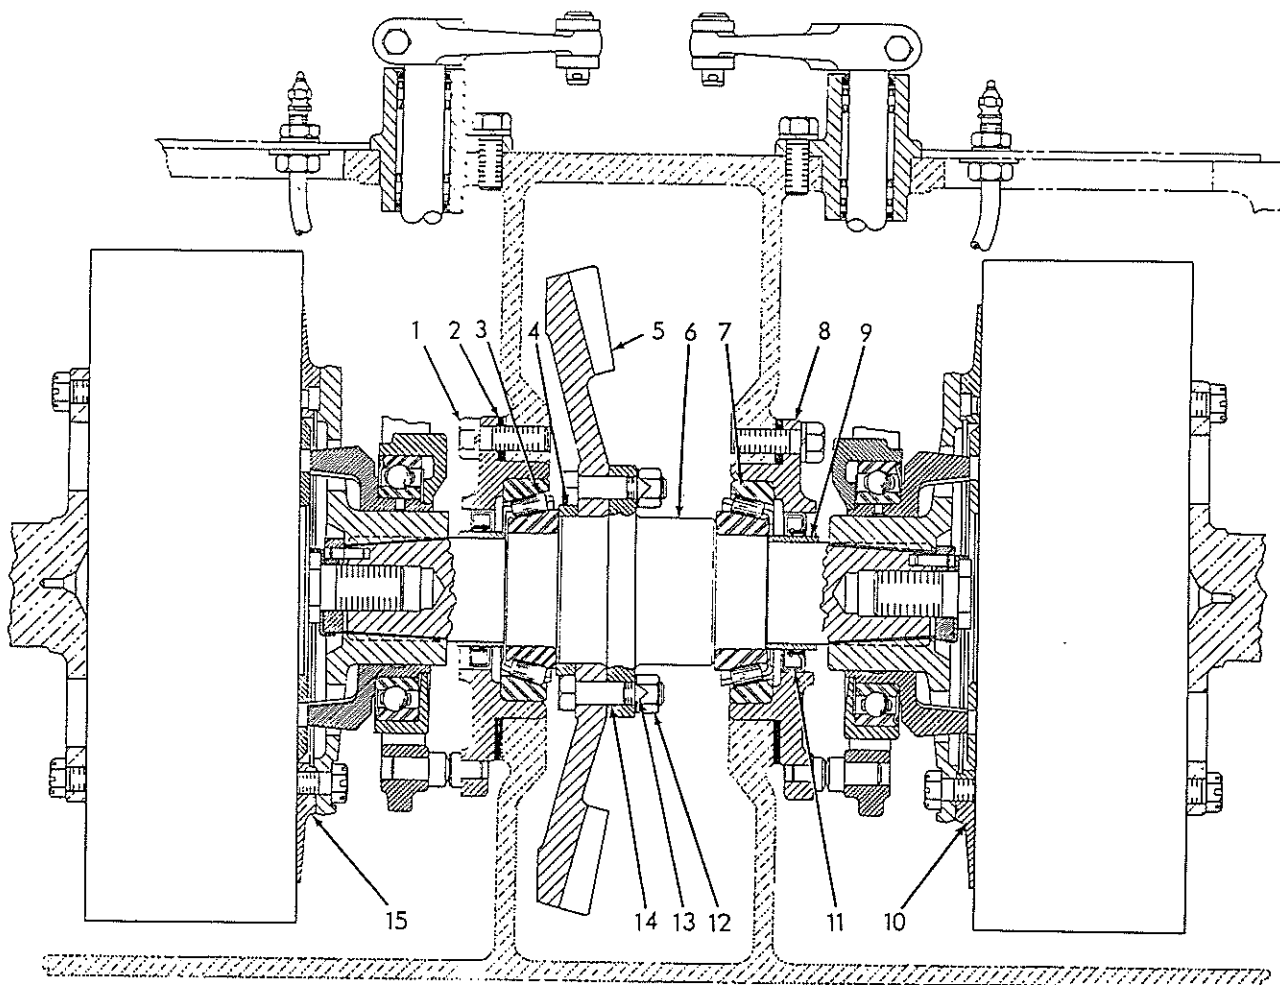
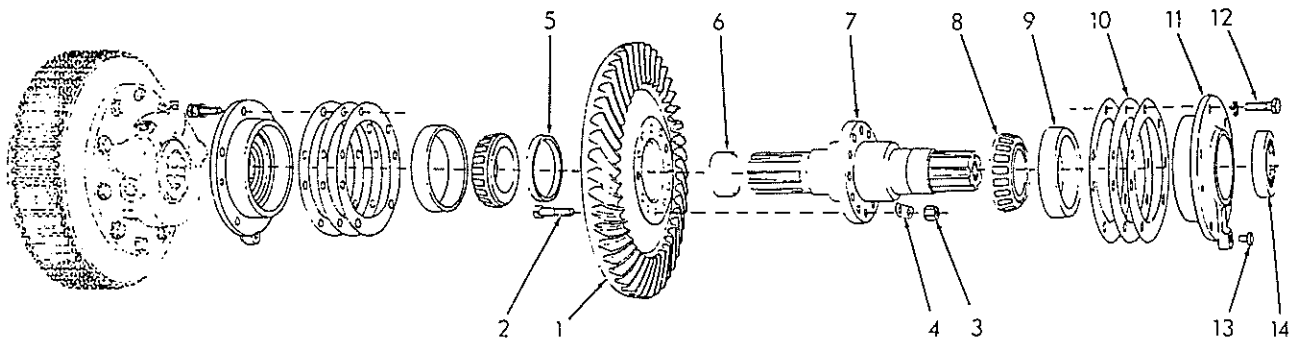

Fig. 13 Bevel Gear and Shaft - Sectional View
Fig. 15 Bevel Gear and Shaft Details
The bevel gear, located in center compartment of steering clutch and final drive housing, is attached to flange on bevel gear shaft, Fig. 13. The bevel gear shaft is supported at each end by tapered roller bearings in removable cages. Bevel gear is driven by transmission bevel pinion; power from bevel gear is transmitted through steering clutches to final drives.
3. Refer to Fig. 13; remove capscrews attaching bearing cages (8) to inner walls of steering clutch compartments; place wooden block under bevel gear to support gear and shaft and remove bearing cages; tie bearing adjustment shims (2) to their respective cages to prevent loss. Mark bearing cages so they will be reinstalled in their original positions (left and right).
1. Install sleeves, Fig. 15 (6), if removed; press sleeves against shoulder on shaft.
2. Press one bearing cone, Fig. 15 (8) on long end of shaft with large O.D. of bearing tight against shoulder on shaft. Place bevel gear on suitable work bench (with teeth of gear downward). Position capscrew locking ring (5) on bevel gear and install capscrews (2) in bevel gear; turn capscrew heads as necessary to clear locking ring as capscrews are installed.
3. Remove locking ring and position bevel gear in bevel gear compartment with teeth of gear facing right steering clutch compartment. Install bevel gear shaft through right steering clutch compartment and align capscrews in bevel gear with holes in bolting flange of shaft. Bump or drive bevel gear shaft into bevel gear until locking plates, Fig. 15 (4) and high nuts (3) can be started on capscrews. Install locking ring (5) and tighten nuts evenly until bevel gear is properly located on shaft.
4. Lubricate other bearing cone, Fig. 15 (8) and start it on short end of bevel gear shaft with large
5. Press bearing cups Fig. 13 (7) in bearing cages (8); make certain cups are seated firmly in cages. Lubricate bearing with clean oil and install each bearing cage (with original bearing adjustment shims). Make certain wear pins Fig. 15 (13) in each bearing cage is at bottom; start bearing cage attaching capscrews (12), but do not tighten at this time.
Do not install oil seals, Fig. 15 (14) in bearing cages until bevel gear adjustments have been made (refer to "ADJUSTMENTS").
e. After adjustments are completed, remove bevel gear shaft bearing cages and install oil seal Fig. 15 (14) in each cage (sealing lip inward). Reinstall bearing cages (with bearing adjustment shims); bump bearing cages while tightening cap-screws to make certain bearings are properly seated.